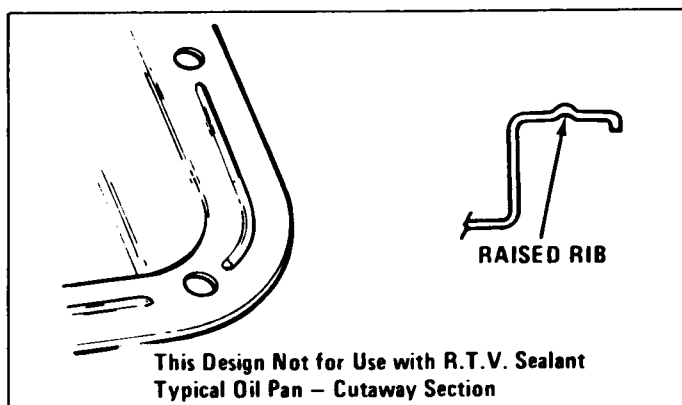
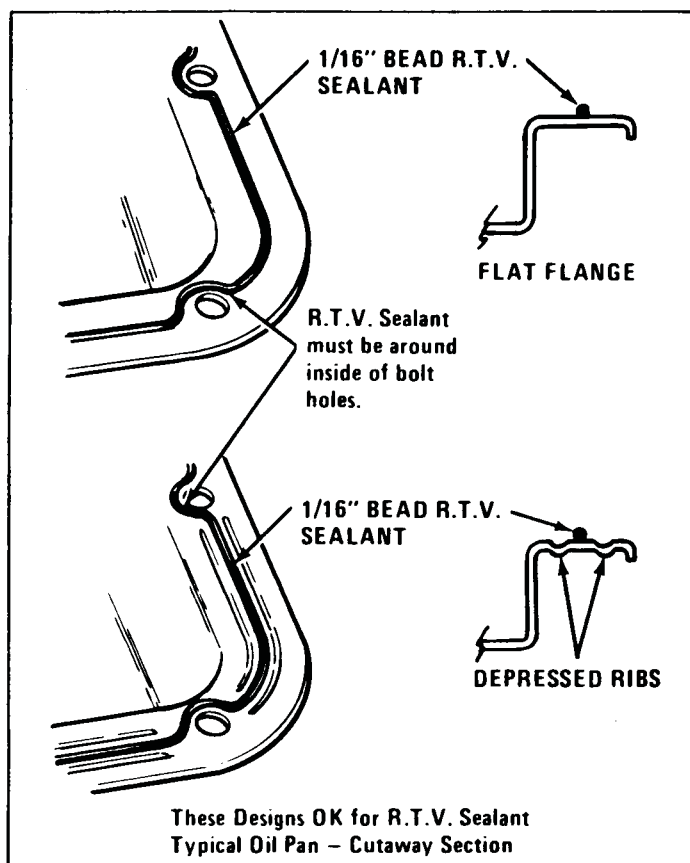

Figure 10
Figure 11
In early May, 1981, some THM 125 transaxles were built with R.T.V. Silicone sealant on the valve body cover and bottom oil pan in place of the cork gaskets. The flange on both the valve body cover and the oil pan were redesigned to eliminate the stiffening rib (Figure 10), making the flange face flat (Figure 11).
Oil pans-with raised stiffening ribs on the flange as in Figure 10, must not be assembled with R.T.V. sealant.
R.T.V. Silicone sealant should be used on oil pans that have a flat flange or a flange with depressed stiffening ribs. However, use of R.T.V. sealant on the side cover should be restricted to the flat flange pan design (Figure 11).